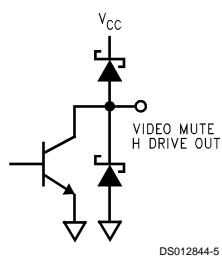

FIGURE 5.
**Pin 4 — VIDEO MUTE:** This NPN open-collector output produces an active-low pulse when triggered by a step change of H sync frequency. See Figure 5 for the output schematic.
**Pin 19—H DRIVE OUT:** This is an open-collector output which provides the drive pulse for the high power deflection circuit. The pulse duty cycle is controlled by pin 13. Polarity convention: Horizontal deflection output transistor is on when H DRIVE OUT is low. See *Figure 5* for the output schematic.